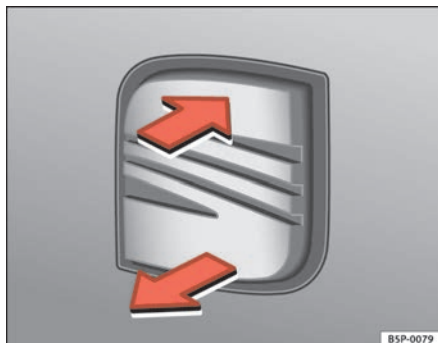
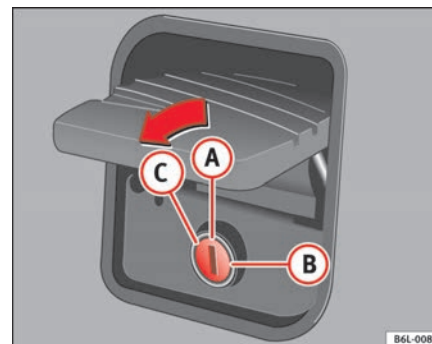

Fig. 50 Boot lid: opening from the outside
Fig. 51 Closing the tailgate
- Pull on the release lever and lift the tailgate ⇒ fig. 50. The keyhole should now be in a vertical position ⇒ fig. 51 **A**.
When the keyhole **A** ⇒ fig. 51 is in a vertical position, the tailgate will open and lock automatically using the central locking system. Also, the tailgate may be opened and locked using a key.
When the keyhole is horizontal **B** ⇒ fig. 51, if the tailgate is closed it remains locked and can only be opened again using the main key.
To open the tailgate the key must be turned all the way **C** ⇒ fig. 51 in the direction of the arrow. In this position the key may not be removed from the lock. ▶